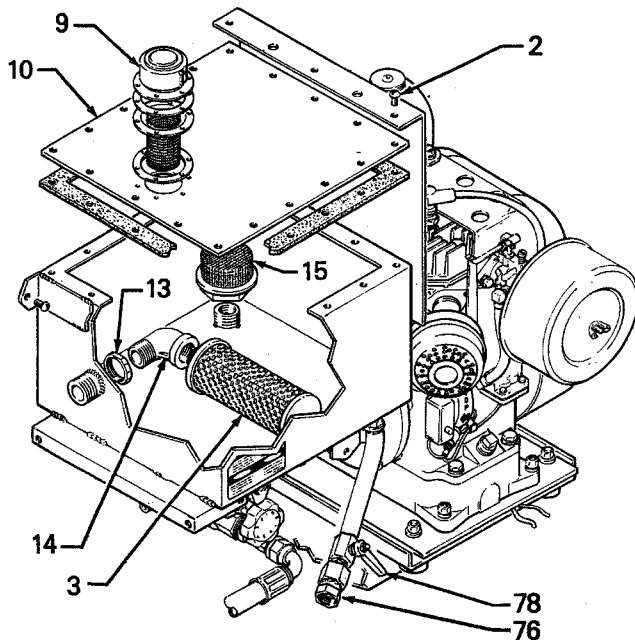

Fig 7
Check the hydraulic oil level occasionally. Unscrew the cap of the intake filter (9); there should be 1 in. (25 mm) of oil visible in the bottom of the filter screen. Refer to Fig 7, page 7. Use Graco-approved oil only. See ACCESSORIES.
Inspect the return line filter (3) frequently, and replace the filter after every 500 hours of operation or every 6 months, whichever comes first. Refer to Fig 7, page 7. A clogged filter can cause the cooler to leak or to fail.
To change the hydraulic oil or the filter (3), follow the Pressure Relief Procedure Warning on page 6. Place a waste container under the bypass valve (78), be sure the valve is closed, and unscrew the swivel union (76). See Fig 7. Open the valve and allow the oil to drain. Remove the 18 screws (2) and the reservoir cover (10). Remove the return line filter (3) and replace it with a new filter assembly. Secure the new filter with the seal nut (13) screwed firmly to the elbow fitting (14). Inspect the inlet strainer (15) and replace it if necessary. See Fig 7. Close the bypass valve, install the reservoir cover and pour 5 gallons (19 liters) of approved hydraulic oil into the reservoir, through the filler tube of filter (9).